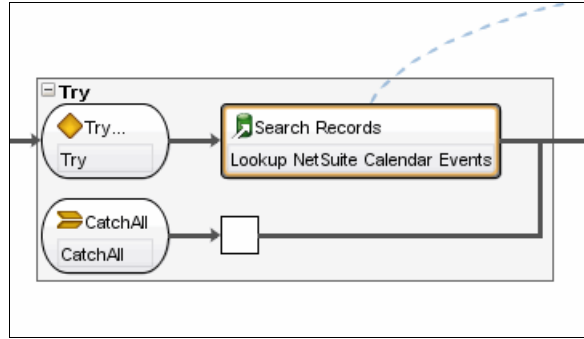

Figure 11-36 Search Records activity in the Try block
2. Drag the Search Records activity into the Try block, as shown in Figure 11-36 on page 456.